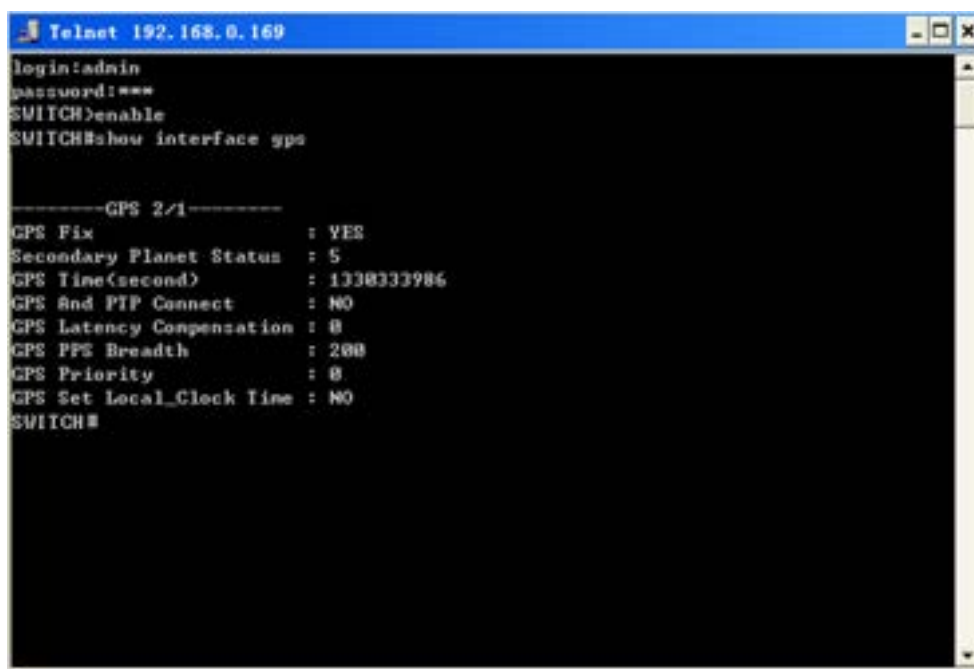

Figure 18 Telnet Configuration Interface
3. Click “OK” to enter the Telnet configuration interface as shown in Figure 18. Login with default user name “admin” and password “123”, and type in the command “enable” to enter management view, and then type in the command “show interface gps” to search for current information of the module.